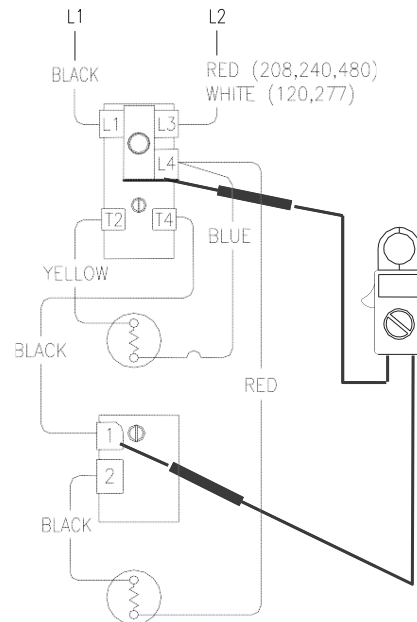

Figure 11
7. Check voltage across terminal L4 of upper thermostat and terminal 1 of lower thermostat (see Figure 11).